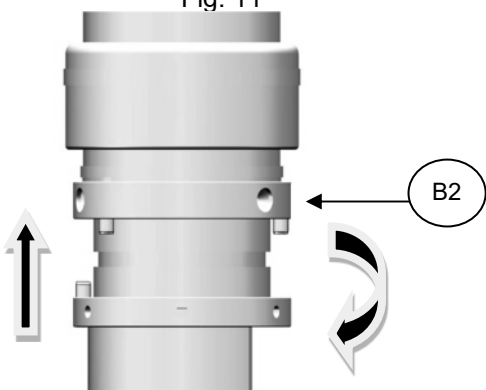

Fig. 13
12. If you wish to modify the rotation of the support between limits, before adjusting the captive screws M3, turn to one of the limits and then, holding the rotation strap **B2**, lift the support 2 cm and turn it in the same direction around 15° more. This way we enter the other section and then we can lower the support and adjust it as in step 12. (Fig.13)